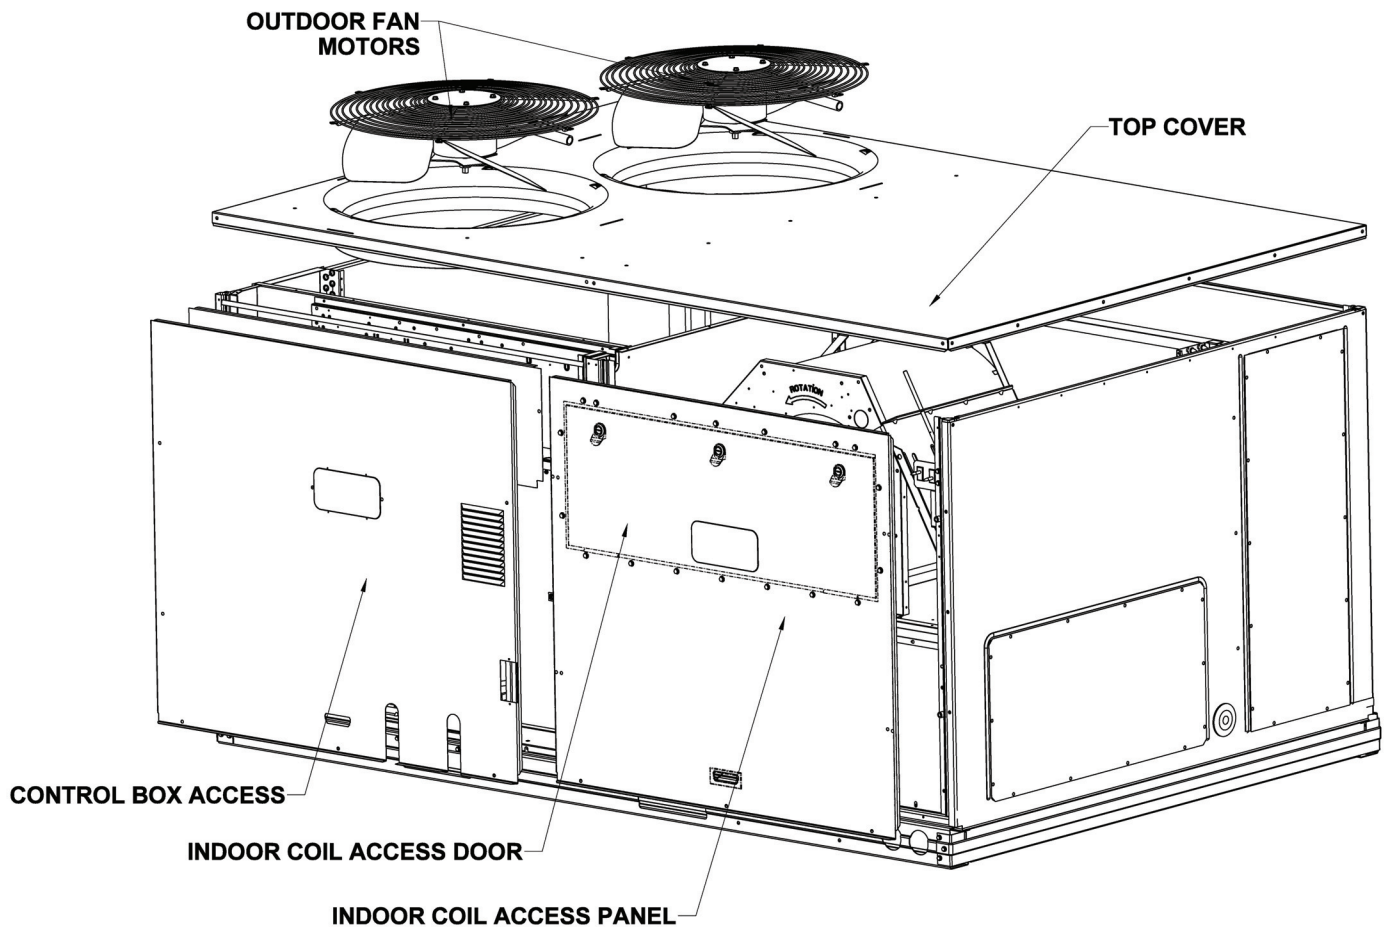

Fig. 2 — Unit Panels and Door Locations
1. Locate and remove the Indoor Blower Panel or Hinged door. (See Fig. 2.)
2. Remove Control Box Access Panel. (See Fig. 2.)
3. Remove the top cover with outdoor motors and grilles. (Motor's harness may be disconnected from Control Box for safety) (See Fig. 2.)